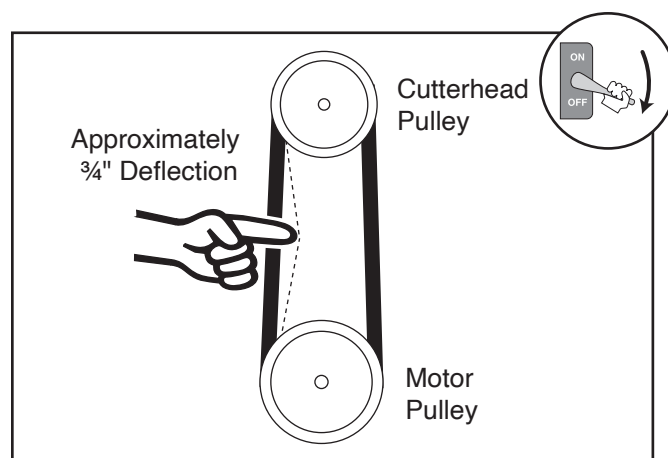

Figure 74. Belt deflection.
3. Check V-belt tension. Each belt is properly tensioned when there is approximately $\frac{3}{4}$ " deflection when belt is pushed with moderate pressure, as shown in **Figure 74**.